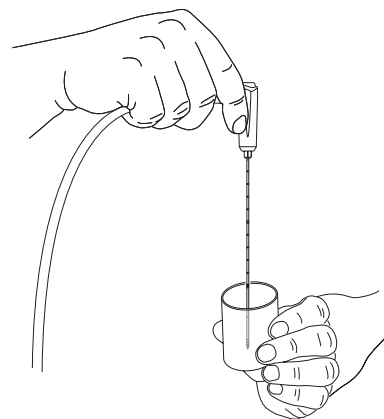

Figure 4-8: Probe tip placed in sterile water bottle
- Place the probe tip into a clear container of sterile water. See Figure 4-8.